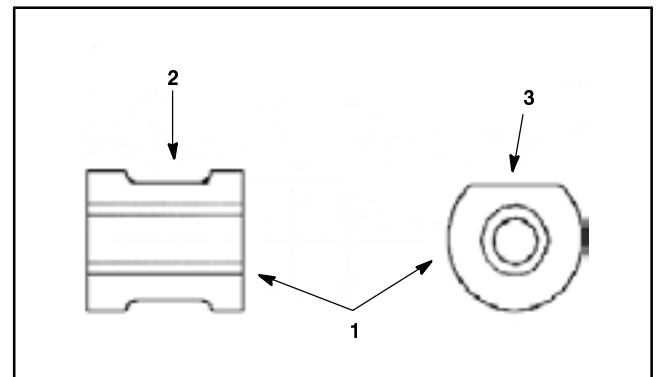

Figure 10
3. Check the rollers. If binding or uneven wear is found, replace all rollers as a set (Fig. 10).